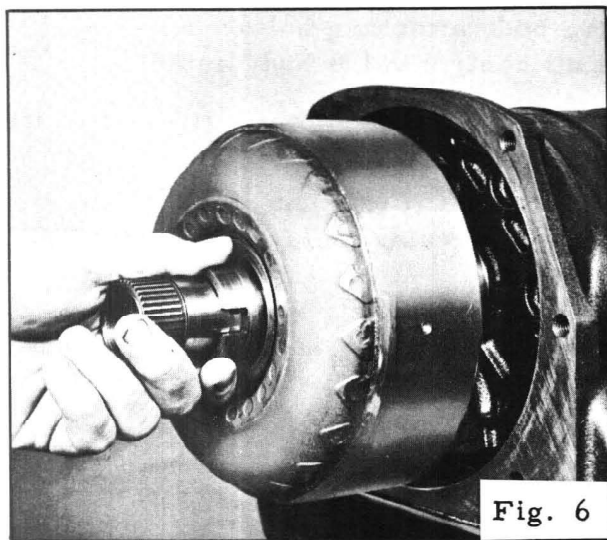

Fig. 6
- ☒ Grasp the front unit coupling shaft and pull the front unit coupling from the transmission (Fig. 6).